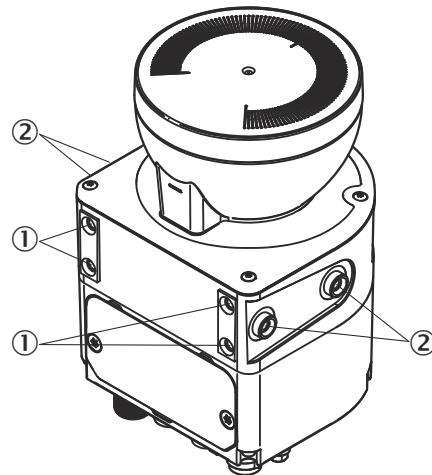

Figure 47: Mounting the safety laser scanner directly
- ① Rear M5 threaded hole
- ② Side M5 threaded hole
- Use either the rear or the side M5 threaded holes for direct mounting, see figure 47, page 72.